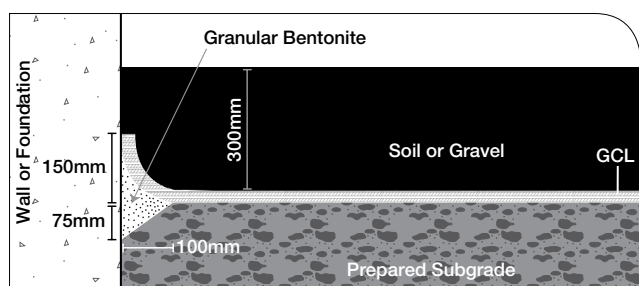

FIGURE 14 Cross-Section of a GCL Seal against an Embedded Structure or Wall
8.5 When the GCL is terminated at a structure or wall that is embedded into the subgrade on the floor of the containment area, the subgrade should be notched as described in Sections 8.3 and 8.4. The notch is filled with granular bentonite, and the GCL should be placed over the notch and up against the structure (Figure 14). Connection to the structure can be accomplished by placement of soil or stone backfill in this area. When structures or walls are at the top of a slope, additional detailing may be required. Contact CETCO for specific guidance.